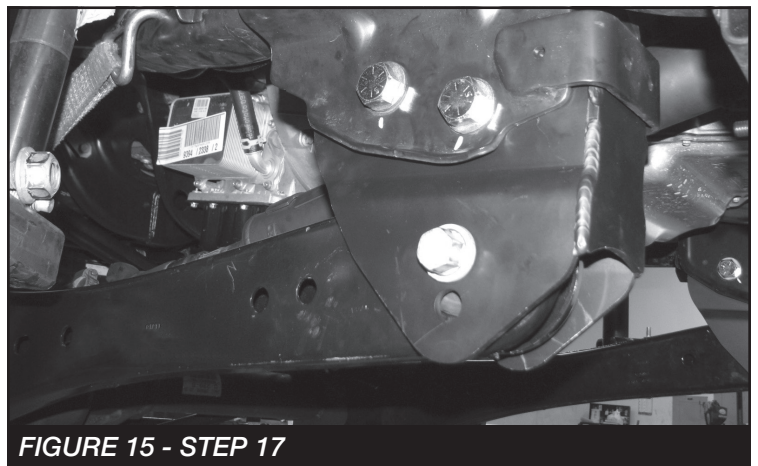

FIGURE 15 - STEP 17
17. Reinstall the radius arms into the new drop down bracket using the factory hardware. Attach to the axle first then to the new drop bracket using the upper most hole. Torque to 200 ft-lbs. **SEE FIGURE 15**